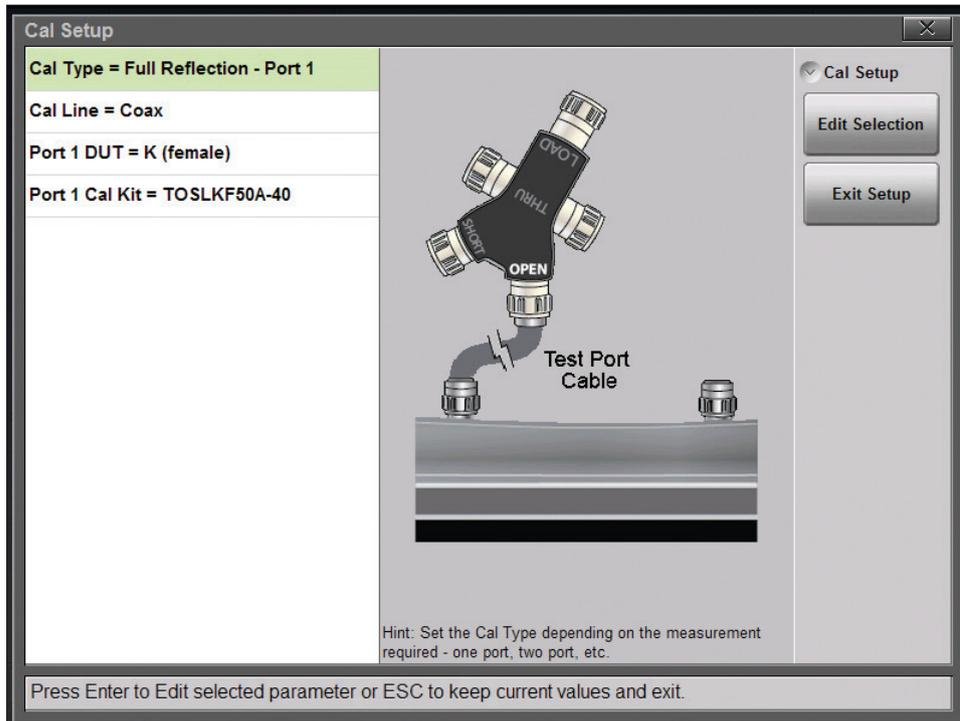

Figure 5. Cal Setup
- b. Press “Cal Setup”  key. See *Figure 5*.